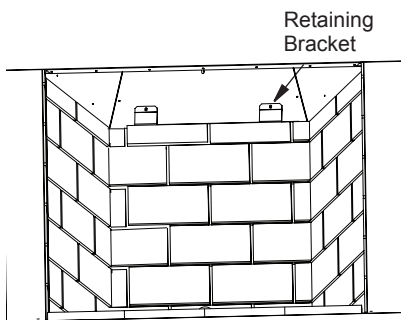

Figure 23 - Installing Rear Wall
4. Install the rear firebrick wall last. Place the wall face side down on the hearth with the bottom of the wall toward the rear of the firebox and the top toward the front of the fireplace. Tilt the wall up toward the back of the firebox. Secure with 2 rear retaining brackets provided (Figure 23).